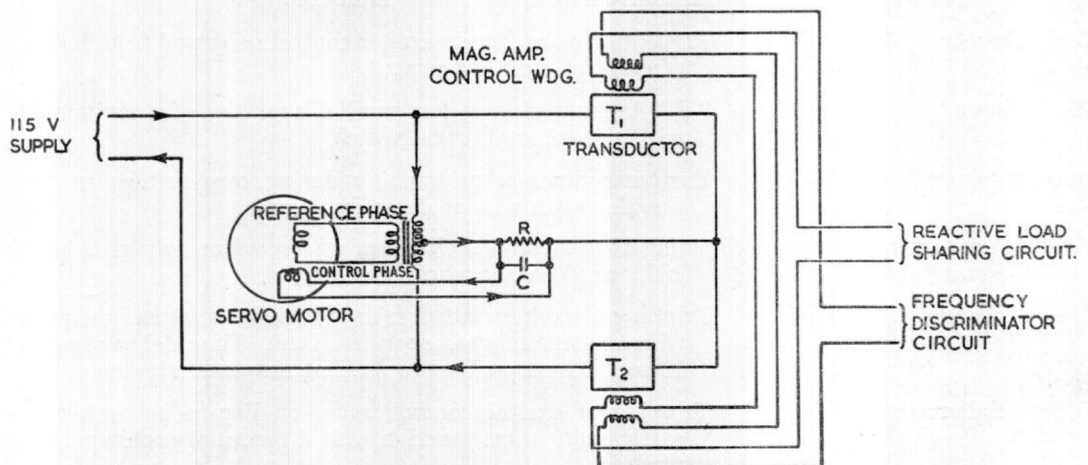

Fig. 9. Magnetic amplifier—servo motor circuit
41. The magnetic amplifier control winding is in two sections, each of which controls a transducer as shown in fig. 9. The transducers act as variable impedances sensitive to the magnitude and direction of current through the magnetic amplifier control winding. Thus, if at some instant the control signal makes T.1 a high impedance and T.2 a low impedance, the instantaneous current through the control phase will be in the direction shown by the arrows. If the control signal is reversed the relative values of impedance of T.1 and T.2 will also be